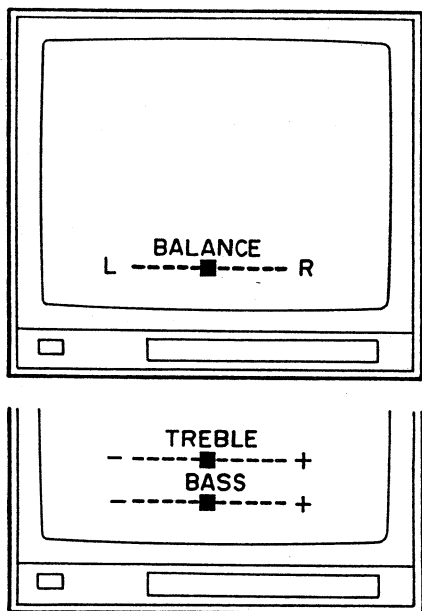

Fig. 2
- Apply a crosshatching signal to the superimposing unit through the TV (VIDEO IN) terminal and press the BALANCE key or TONE key (TREBLE or BASS). Then adjust the TC851 to adjust the superimposed display output through the VIDEO OUT (TO MONITOR TV) terminal in the center of the screen so as to obtain equal margins on the right and left (refer to Fig. 2).